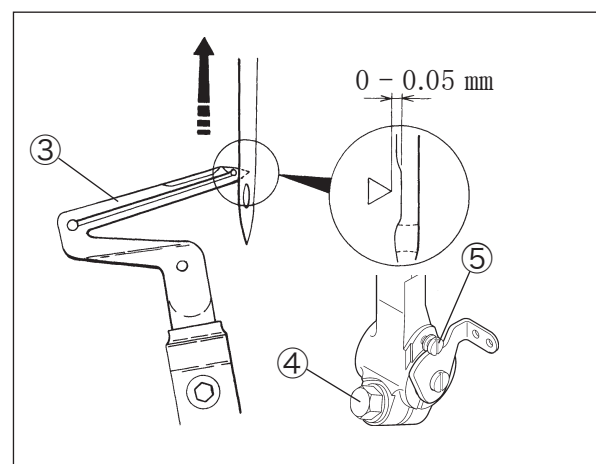

Fig. 6-25
1. After checking the needle heights, tighten screw ① of the needle bar bracket. Refer to “6.9.1 Height of needle” on page 29.
3. Once the back and forth position of the lower looper has been adjusted, check the distance between the needle and the lower looper, then tighten screw ④ in Fig. 6-25.
4. Apply the liquid packing to the thread of the screw ② when tightening it.